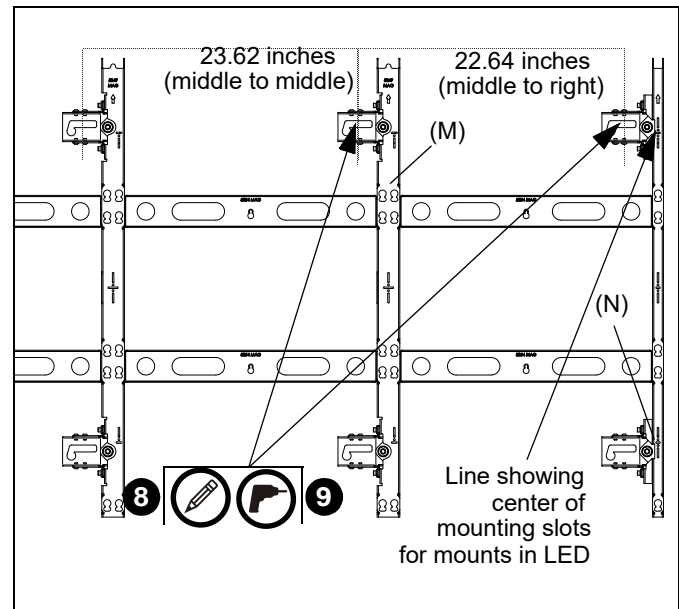

**Figure 16**
3. Partially install two #10-24 x 1/2" Phillips flathead screws (Q) into middle two holes on middle upright (M) or right upright (N). (See Figure 16)
4. Insert two partially installed screws (Q) into holes on opposite side of spacer plate (P). (See Figure 16)
5. Lower upright until screws are properly seated in keyhole mounting holes. (See Figure 16)
6. Tighten two screws to secure spacer plate to mounting upright (M) or (N). (See Figure 16)